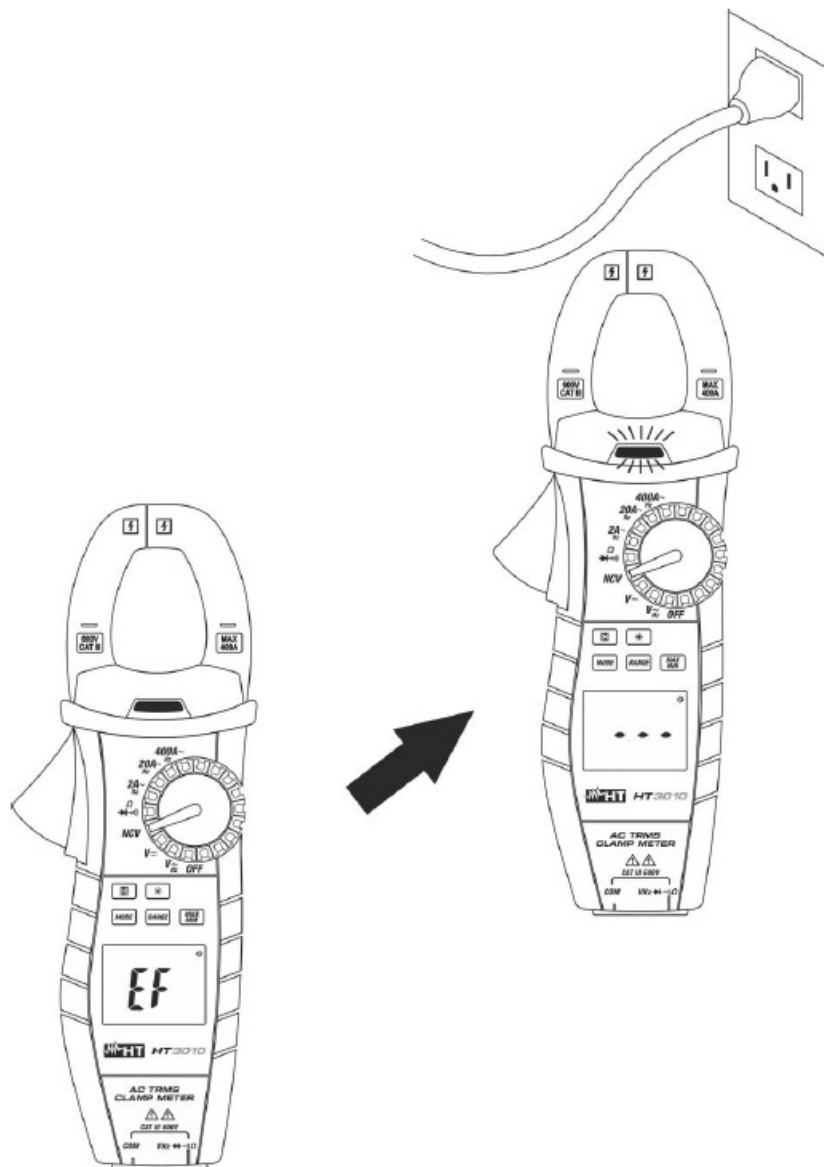

Fig. 4: Non-contact AC Voltage detection (NCV)
2. Move the instrument to the AC source (see Fig. 4)